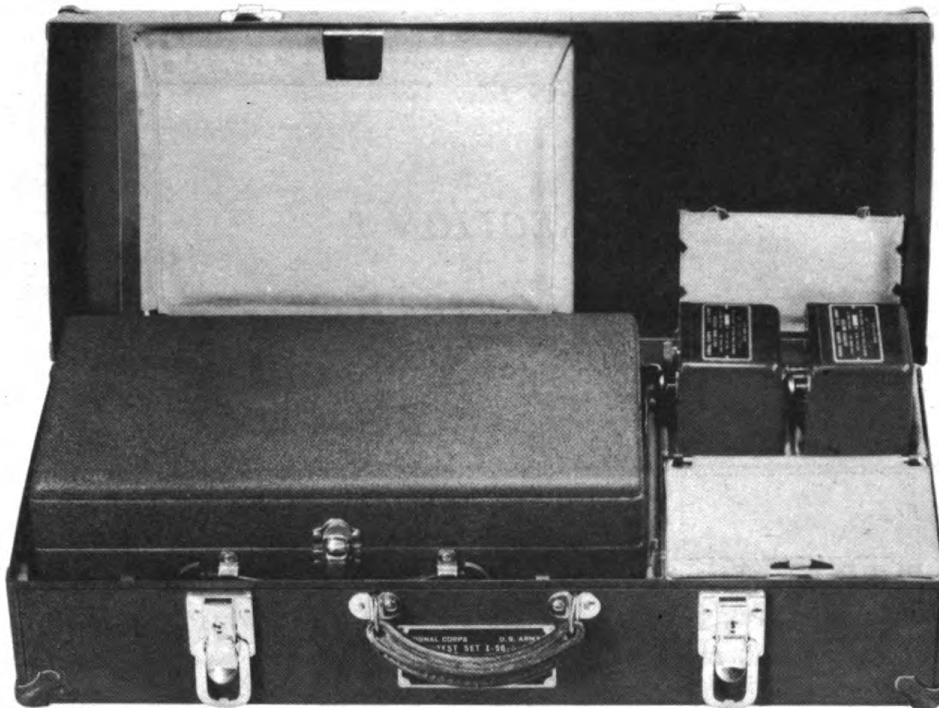

FIG. 1. TEST SET I-56-(*) WITH COVER RAISED TL-7380
2. **GENERAL.** Test Set I-56-(*) consists of a **combination tester**, a **volt-ohm tester**, an **output meter**, accessories, and a steel carrying case (fig. 1). Model numbers of the components differ since Test Sets I-56-C and I-56-J were made by one manufacturer and Test Sets I-56-D and I-56-H by another. Test Sets I-56-C and I-56-J are practically identical. Test Sets I-56-D and I-56-H are identical. Differences are specifically explained in the text.